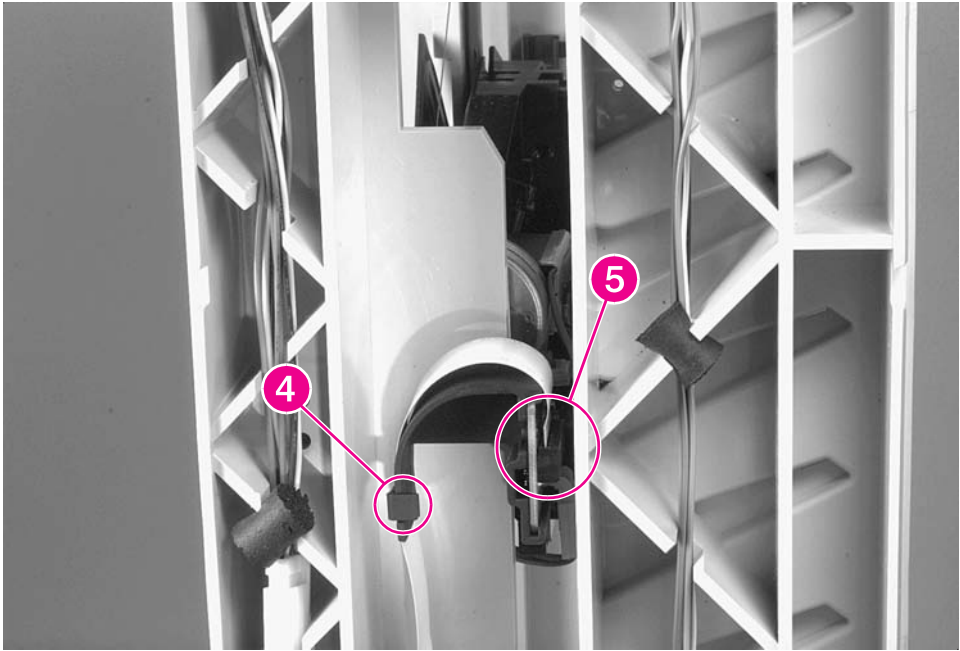

Figure 6-171 8-bin Mailbox Delivery Head Assembly (3 of 4)
- 6 On the back side of the 8-bin Mailbox, release the flat ribbon cable from the cable clip that secures the cable to the 8-bin Mailbox frame (Figure 6-171, callout 4), and gently disconnect the flat ribbon cable from the Delivery Head Assembly (callout 5).
- 5** Reconnect the flat ribbon cable to the Delivery Head Assembly, and secure the cable to the frame with the cable clip (Figure 6-171, callouts 4 and 5).